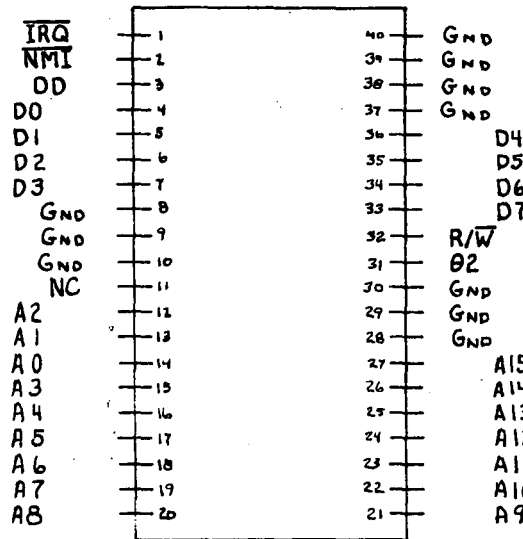

FIGURE 1
The basic Superboard and C1 have an expansion socket located on the component side of the board, just behind the keyboard. It's labeled in the schematics as J1 and is a 40 pin DIP socket. After pouring over the free schematics OSI supplies, I finally decoded what signal is available at each pin. Referring to figure 1 we see that the 16 address lines, 8 data lines, clock line, read/write line, 2 interrupt lines, and a data direction line are supplied. Notably missing are the reset, ready, and sync lines, thus making some projects (such as a single stepper or direct memory access) difficult; however, there is an unconnected pin that could be used for one of those signals if desired. With the exception of data direction (DD) all the signals are standard microcomputer stuff. DD is required because of the way the 6502 and the Cl/SB are designed.